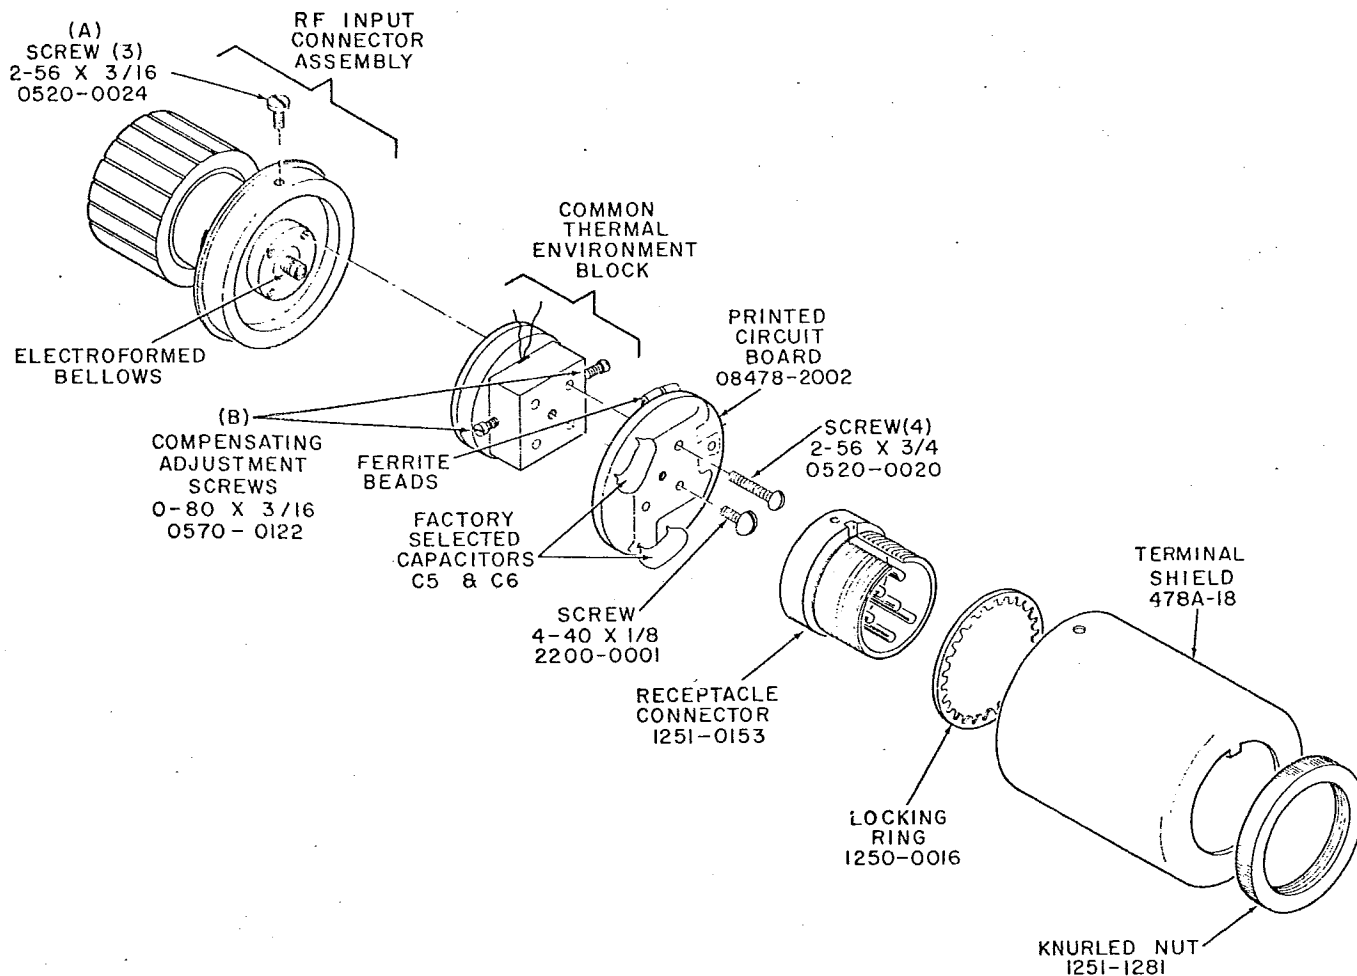

Figure 10. Thermistor Mount Assembly
81. Refer to Figure 10, and proceed as follows:
- a. Remove the three screws (A).